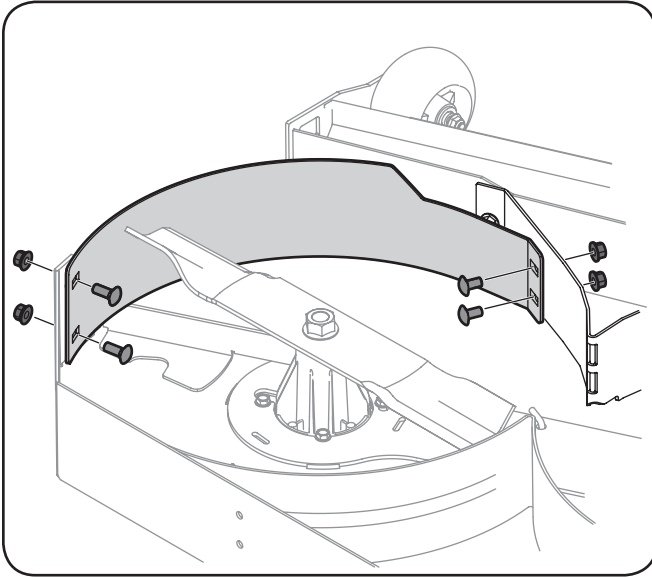

Figure 1-5
2. Install the discharge baffle using the two 1" carriage bolts (and two flange nuts) to secure the back portion, and two 3/4" carriage bolts (and two flange nuts) to secure the front portion. See Figure 1-5.